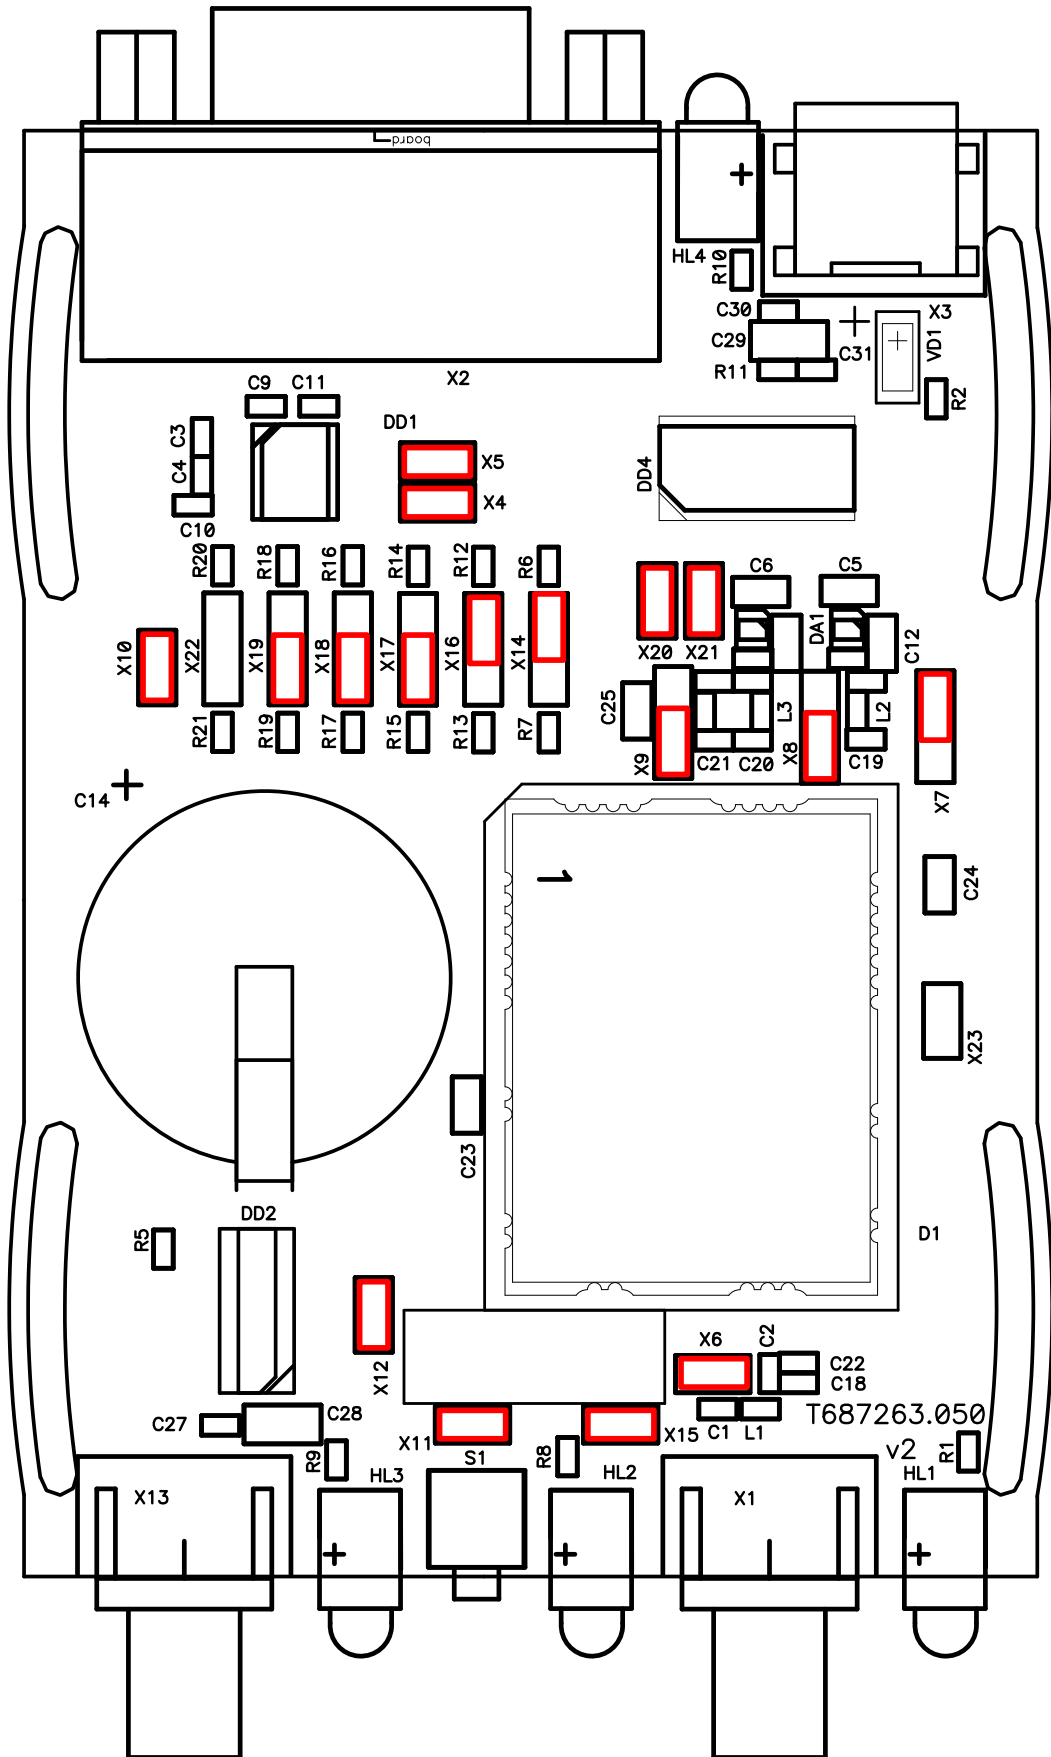

Figure 4. EVK-CSM board and jumper default position
**Table 2** and **Figure 4** describe jumper assignment and default position on EVK-CSM board.